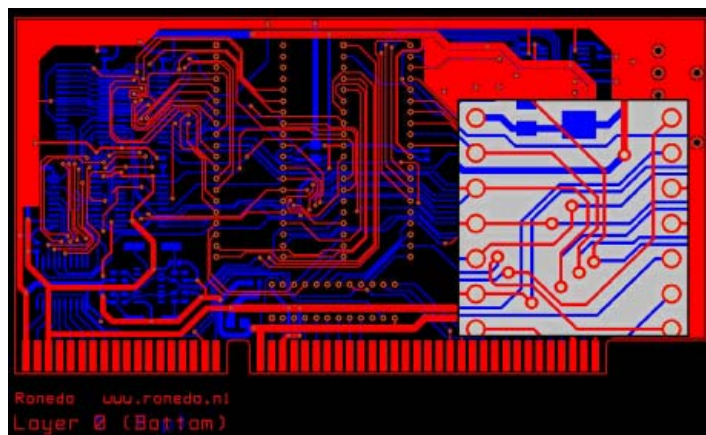

Figure 16: Both gerber layers including Drill holes
12. The Drill information is displayed as a representation from the pad-size combined with the drill size opening (See Figure 16).
The loaded data is now displayed as ordinary gerber data without drill definition (Hole View), as we saw with Exellon Drill data (See Figure 16)